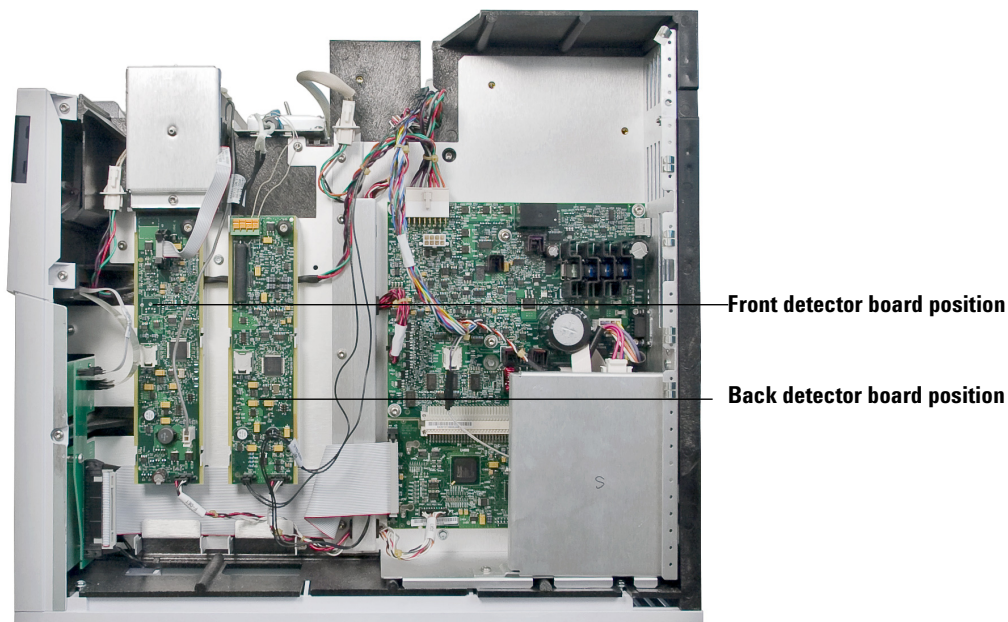

**Figure 5** Detector gas line routing slot (back detector EPR slot identified)
- 6 Orient the tubing from the detector to the EPR module. Position the tubing out of the way of the covers by bending excess tubing into an S curve on top of the oven. (See Figure 5.)